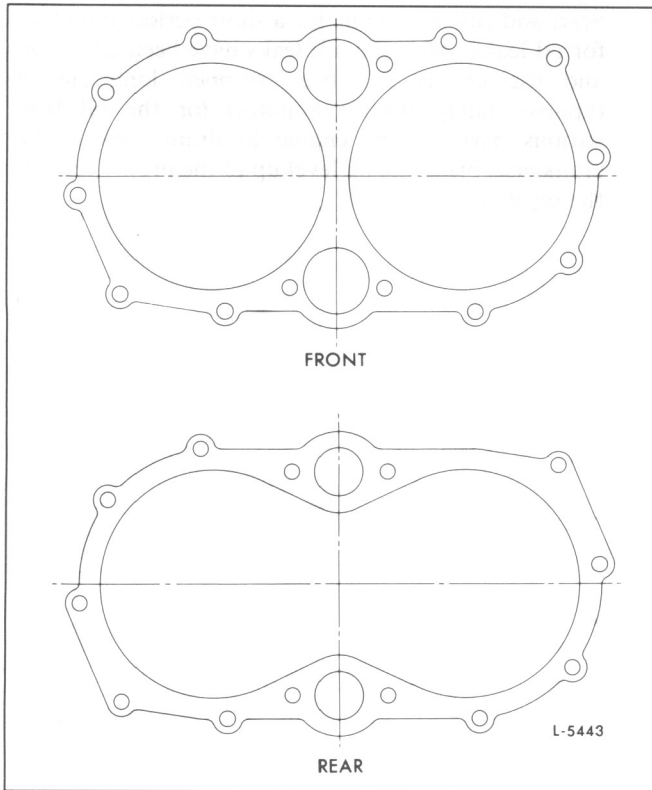

Fig. 15 – Cover Gaskets for Dual Tube Type Oil Cooler
6. Use a new front gasket (Fig. 15) and attach the front cover to the oil cooler with ten 3/8"-16 x 3" bolts and lock washers. Tighten the bolts to 30–35 lb–ft (41–47 N•m) torque.
7. Use a new rear gasket (Fig. 15) and attach the rear cover to the oil cooler with ten 3/8"-16 x 3" bolt and lock washers. Tighten the bolts to 30–35 lb–ft (41–47 N•m) torque.